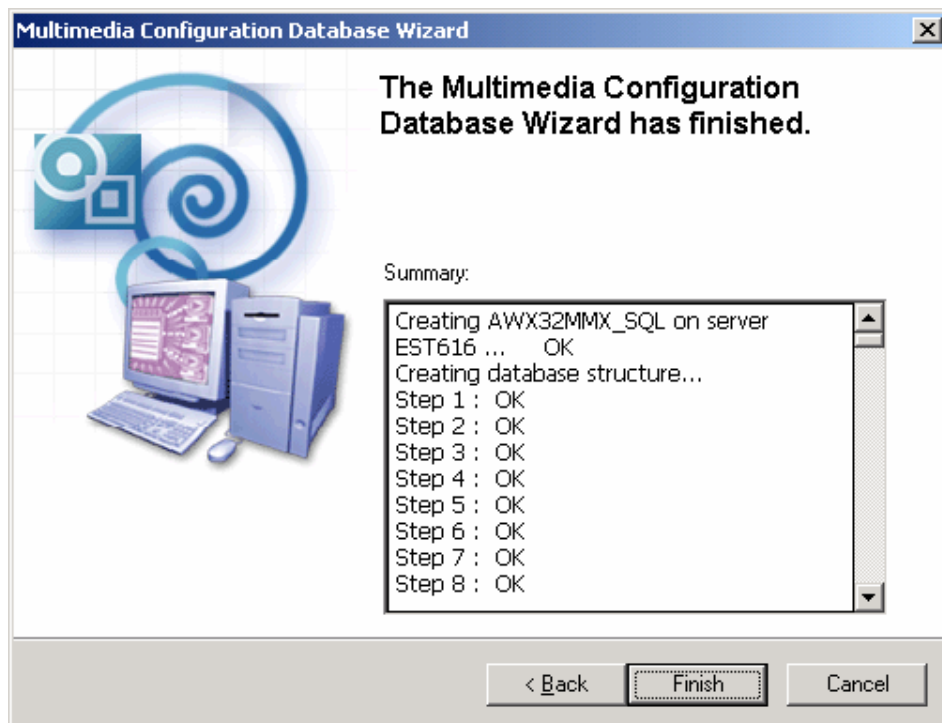

Figure 1.27. Database Creation Complete
8. Once the Universal Data Link has been created, a summary appears, as shown in **Figure 1.27**. Click the **Finish** button to complete the database creation.